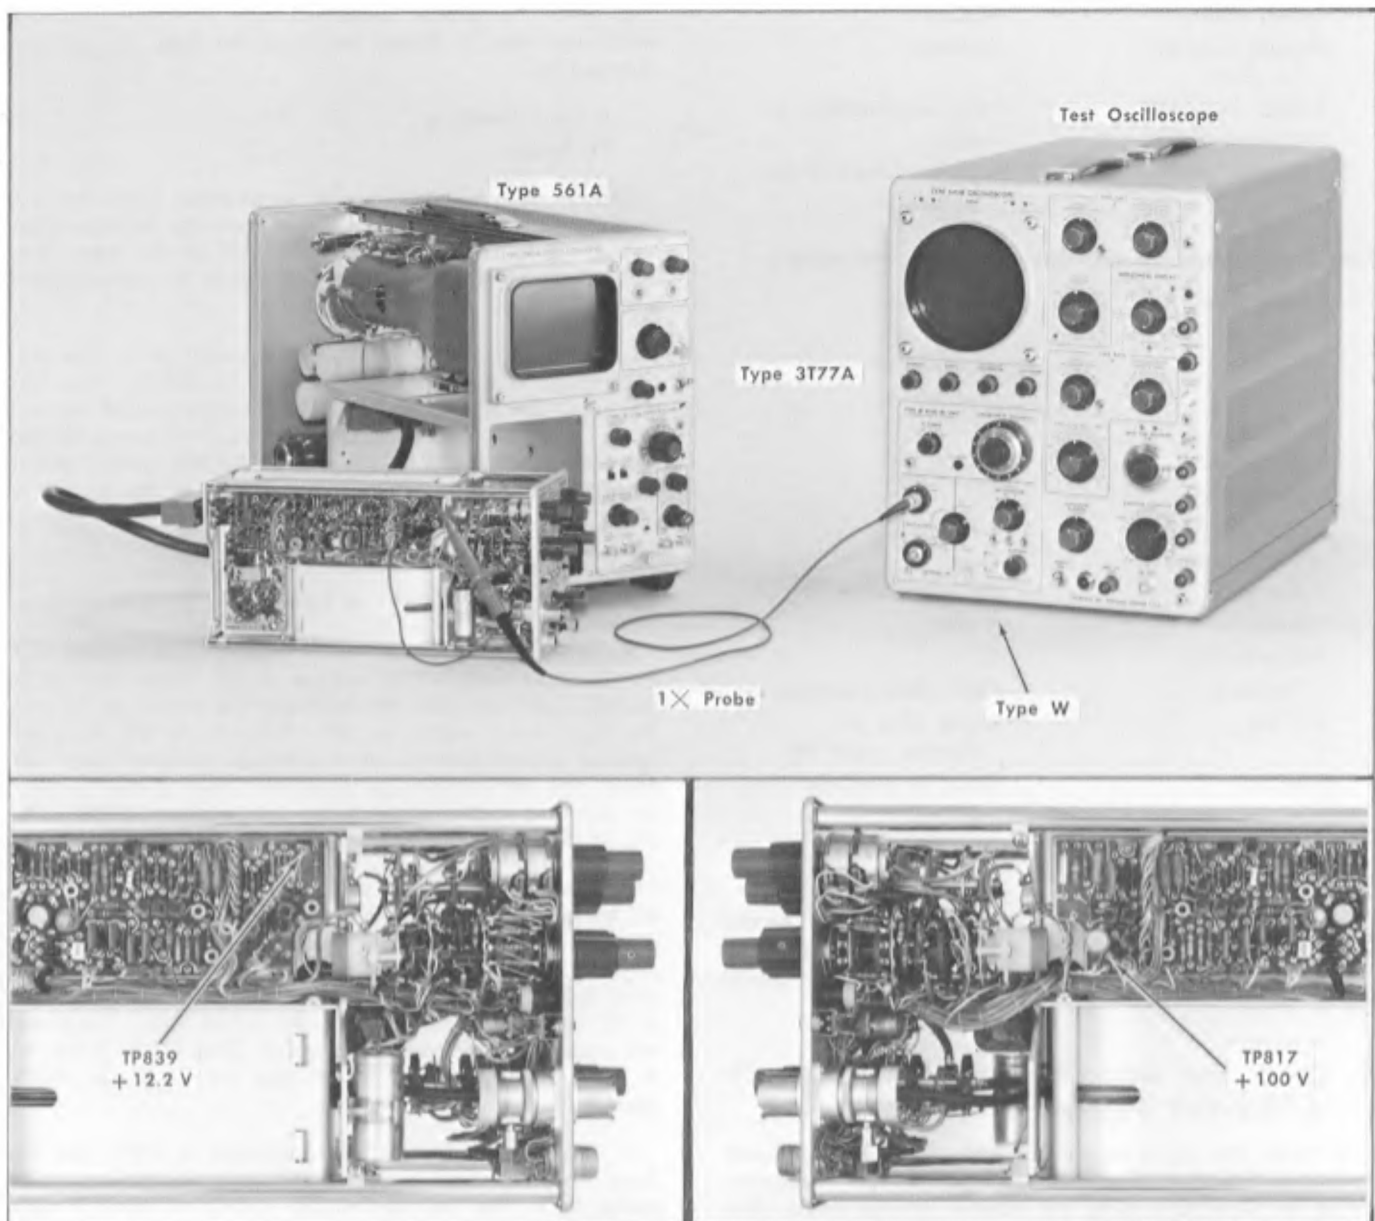

Fig. 8-4. Test equipment setup and Test Points for Steps 1 and 2 of Calibration Procedure.
During warm up, set the instrument controls as listed following Fig. 8-4.
Place the 1× Probe into the A input connector of the Type W. Connect the probe ground clip conveniently near the Type 3S1 Test Point 839 (see Fig. 8-4) and the probe tip at TP839.
①
a. Make the probe connection and control settings listed following Fig. 8-4. The test oscilloscope CRT deflection factor is 50 mV/Cm using the control settings listed. The graticule centerline represents +12.2 volts, and 1% is 122 mV or 2.42 divisions up or down from the graticule center.
a. Move the 1× probe tip to TP817 (Fig. 8-4 insert). Set the Type W Comparison voltage to 10, Outer Dial to 1, Variable Dial to 0.00, the Millivolts/Cm switch to 20 and the Input Atten switch to 100. Recheck the DC Bal and Position control settings for a graticule centered zero volt trace. The test oscilloscope deflection factor is now 2 volts/cm with the graticule centerline representing +100 volts. 5% of 100 volts is 2.5 major CRT divisions.